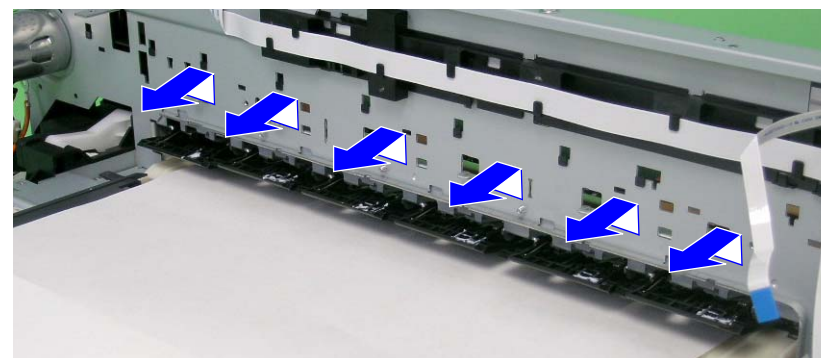

Figure 4-114. Removing the Top Paper Guide Assy
5. Lift the six Upper Paper Guide Assys from the Main Frame to release the shaft (See Figure 4-114), and remove the Upper Paper Guide Assys to the rear.